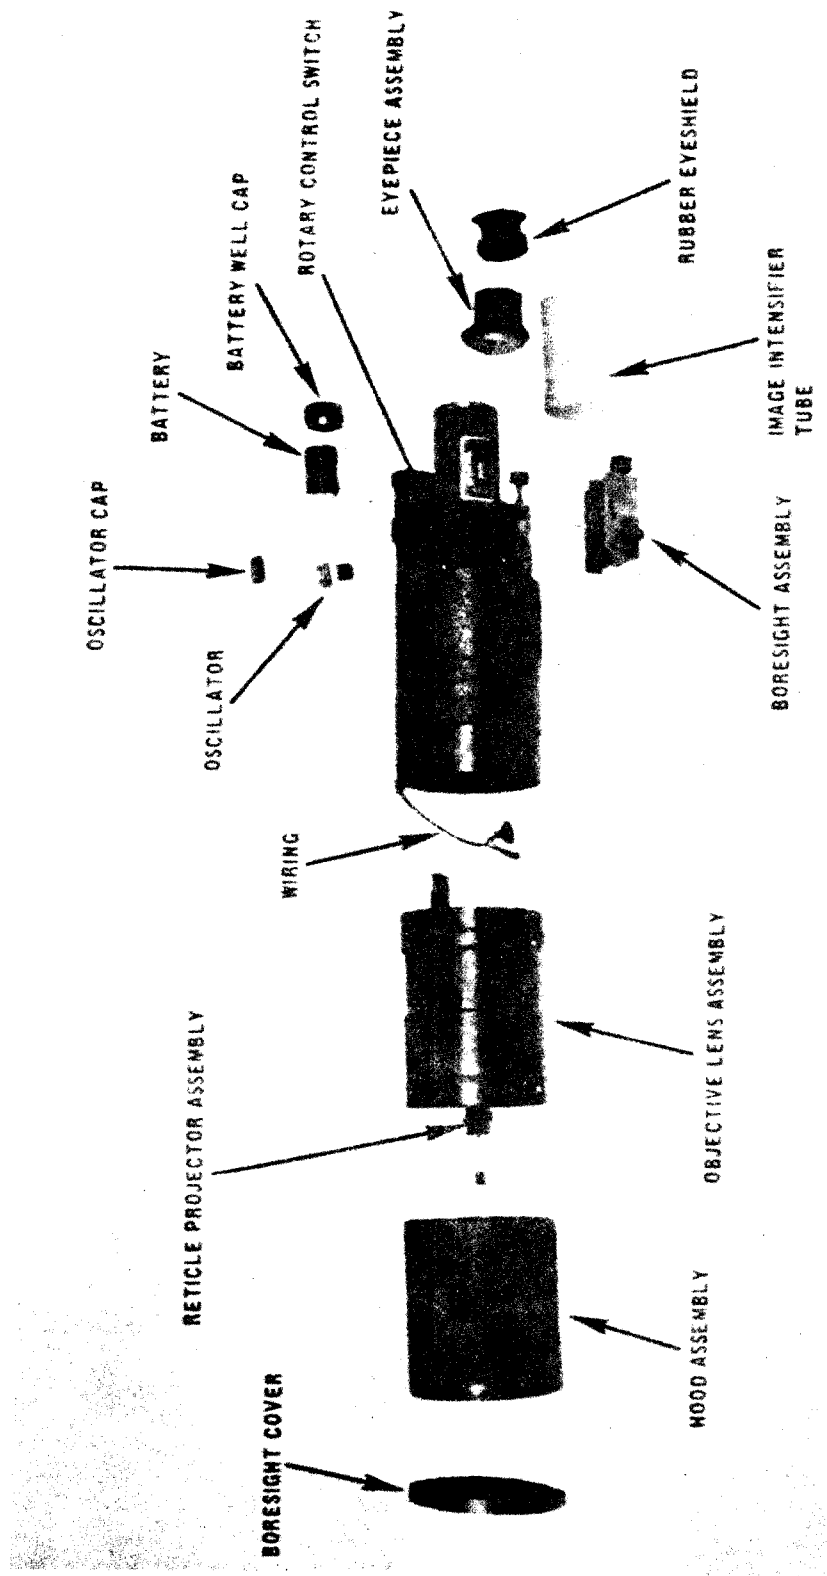

Figure 2. Major components.
c. Sight. The Sight (fig 2) consists of the Sight body, objective lens assembly, reticle projector assembly, eyepiece with rubber eyeshield, image intensifier tube, integral high-voltage power supply, a rotary control switch with wiring, and a boresight assembly. The in-line eyepiece is used with the Browning machinegun caliber .50 HB M2, and the right angle eyepiece is used with the 106-mm recoilless rifle M40A1. A 6.75-volt mercury battery provides the power for integral high-voltage power supply, cant level illumination, and the reticle projector assembly. The rotary control switch has four positions: OFF, CANT LEVEL ILLUMINATION ON, TUBE ON, TUBE ON RETICLE ON. The boresight assembly is attached to the bottom of the Sight body. A boresight cover is provided for protection of the image intensifier tube when the Sight is used during daylight hours.
16. Functioning (Fig 2). *a. Power Supply.* When the rotary control switch is moved to the third or fourth position (TUBE ON, TUBE ON RETICLE ON) the 6.75-volt battery furnishes the power to the oscillator. The oscillator receives this voltage and increases it from 6.75 volts to 2,800 volts. The increased voltage is transmitted to the multiplier plate on the image intensifier tube. The multiplier plate insures that each stage of the three-stage image intensifier tube receives the required voltage for operation.